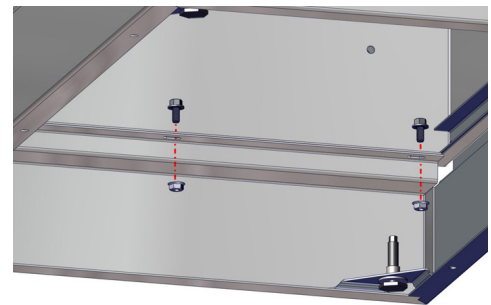

Fig. 12: Attach base and cabinet
6. Secure the cabinet to the base using the Locking Hex Bolts and Flanged Hex Nuts (provided) in the six holes on the sides of the base and cabinet (Fig. 12).